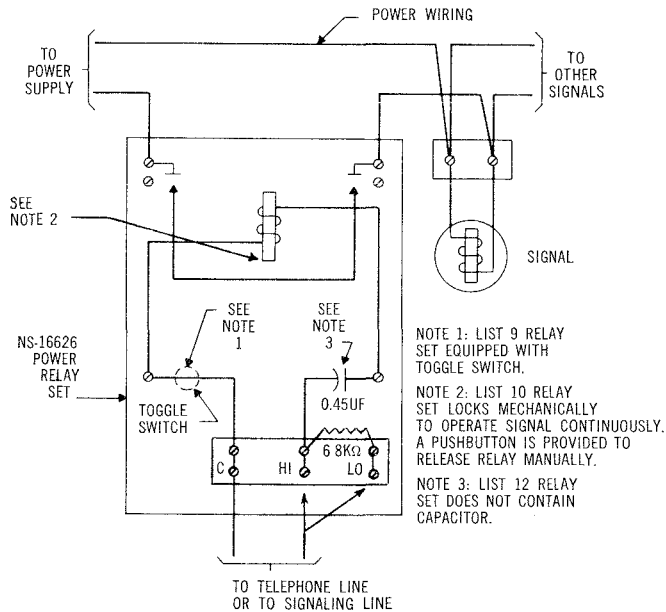

Fig. 5 — NS-16626, List 8 Power Relay Set Connections
2.05 Connections for signals which do not have a self-contained power relay are shown in Figs. 5, 6 and 7. These signals require commercial power wiring between the relay set and the signal.